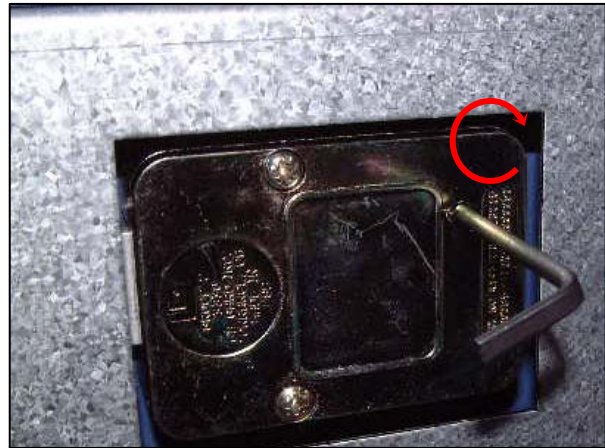

Fig.4.5
6. Push the change bar completely until it is held by the dial change home (Fig.4. 4) inside the safe door and turn to the clockwise by 90 degrees (Fig.4.5).